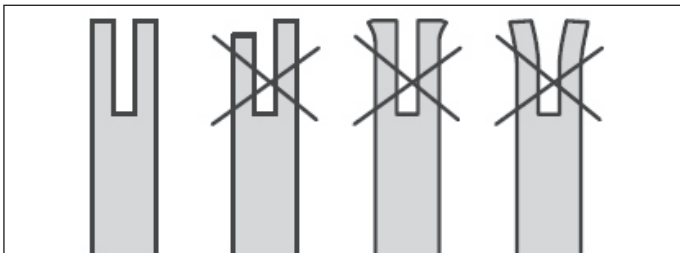

Fig. 22c
- 5). Check the guide bar 'rail' for wear: Hold a ruler (straight edge) against the side of the guide bar and 'cutter side plates'. If there is a gap between the ruler and guide bar the guide bar 'rail' is normal. If there is no gap (ruler flush against the side of the guide bar) the guide bar 'rail' is worn and needs to be replaced with a new one of the same type. (See Fig. 22c)